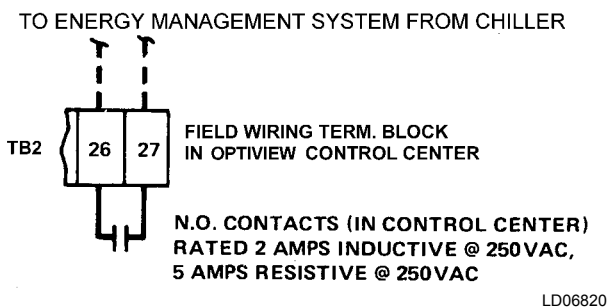

FIGURE 1 - REMOTE MODE READY TO START CONTACTS
- Remote Mode Ready to Start – See *Figure 1 on page 7*.
When the OptiView™ Control Center is in the DIGITAL or ANALOG remote operating mode and the COMPRESSOR switch is in the RUN (I) position, with the Remote Stop Contacts open, and the Remote Mode Ready to Start Contacts closed (Figure 1 on page 7), the unit will start via a closure of the Remote Start Contacts. A subsequent closure of the Energy Management System Remote Stop Contacts causes the chiller to shut down. The OptiView™ Control Center will display REMOTE STOP because the Energy Management System Remote Stop Contact has commanded the unit to shutdown.